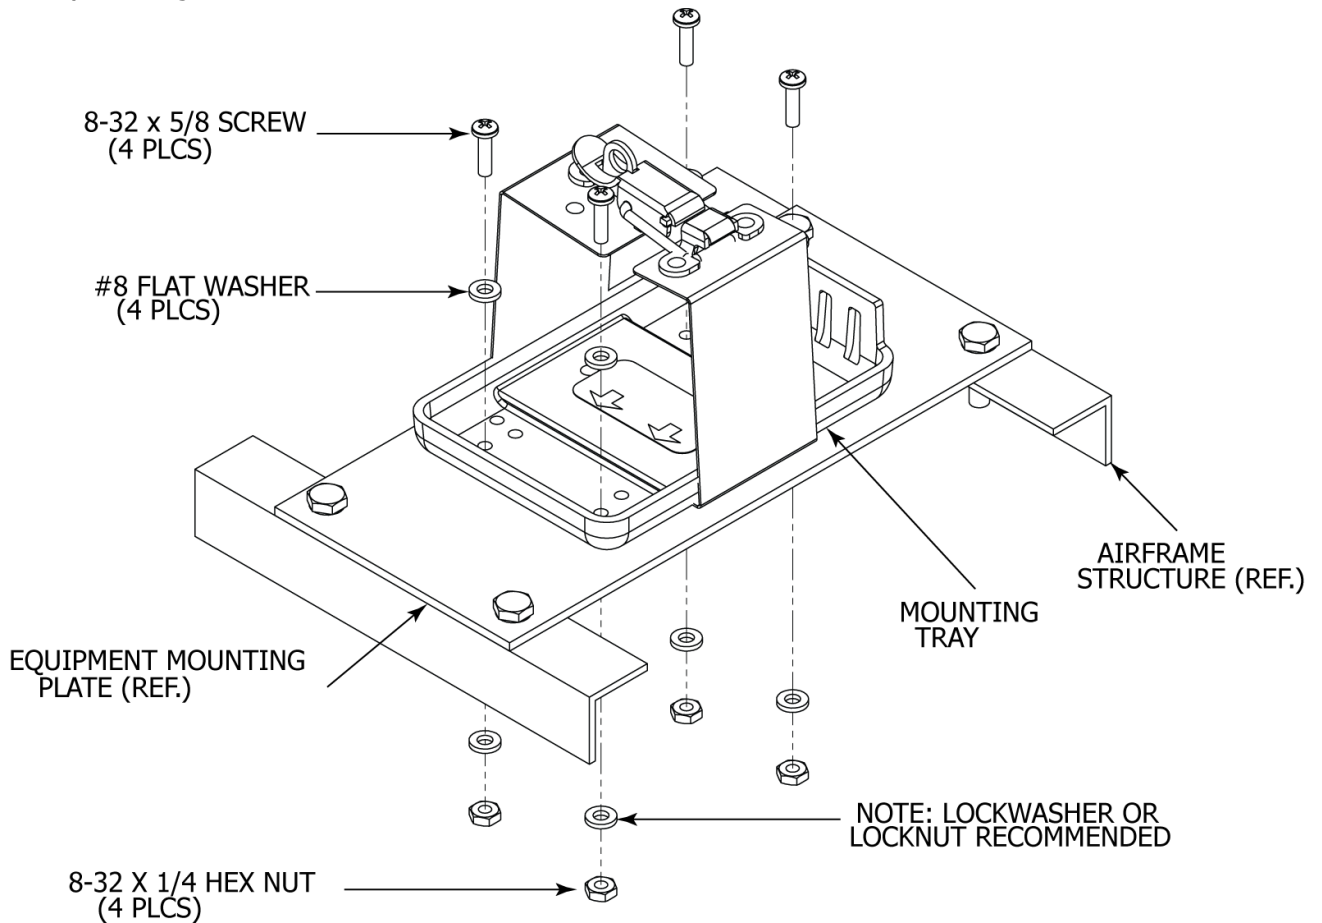

Figure 15 Typical Mounting Tray Installation
1) See Figure 15.
- 5) Install the mounting tray as shown in Figure 15.
- 1) An optional mounting tray (P/N 8318) is available to enable ELT 3000 retrofit into aircraft equipped with ARTEX C and B series ELT systems. The conversion tray can help reduce engineering and structural changes as it aligns with existing C and B series bolt patterns. P/N 8318 has been subjected to the same environmental testing as the standard tray and is approved under the same TSO. P/N 8318 is installed by the initial installation mounting procedure outlined in Figure 15.